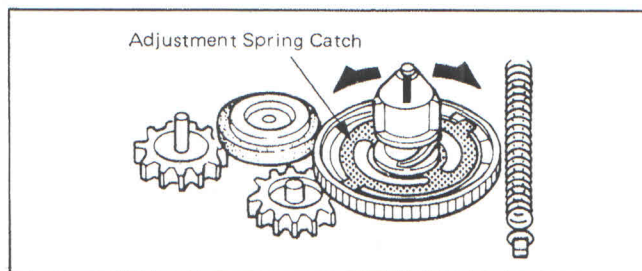

Fig. 3-4
3. If the reading is out of specified values, adjust the torque adjustment spring catch provided on the take-up reel base as shown in *Fig. 3-4*. Rotate the spring catch in the arrow direction until the specified torque is obtained, using a small driver or pincette.